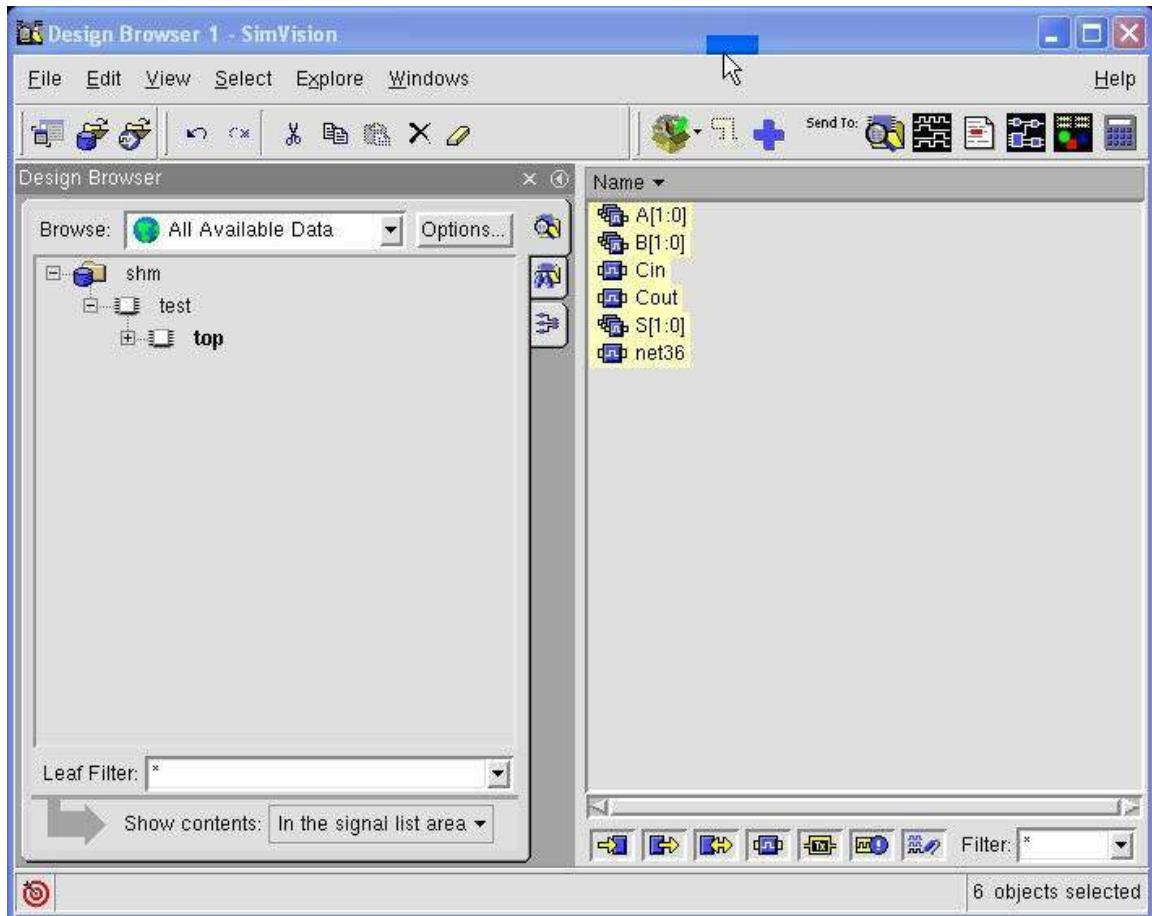

Figure 4.18: Design Browser with Signals Selected
**Design Browser 1 SimVision** window appears as shown in Figure 4.18. Using this window you can navigate the hierarchy of your circuit to select the specific wires that you'd like to see in the waveform window. Once selected, you send the values to the waveform window using the widget that looks like waveforms in a black square. You can also right-click after selecting the signals you want to get a menu with the choice to **send to Waveform Window**. The **Design Browser** with all the top level I/O signals in the two bit adder selected is shown in Figure 4.18.